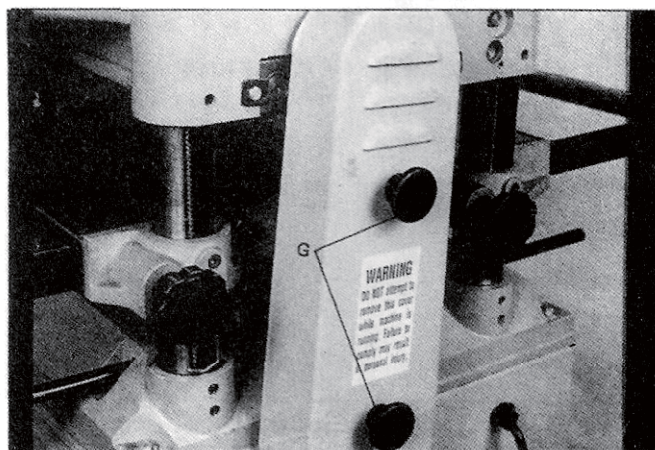

Fig. 15
4. To unload two plastic knobs (G) to assemble motor belt. As shown in Fig. 15.